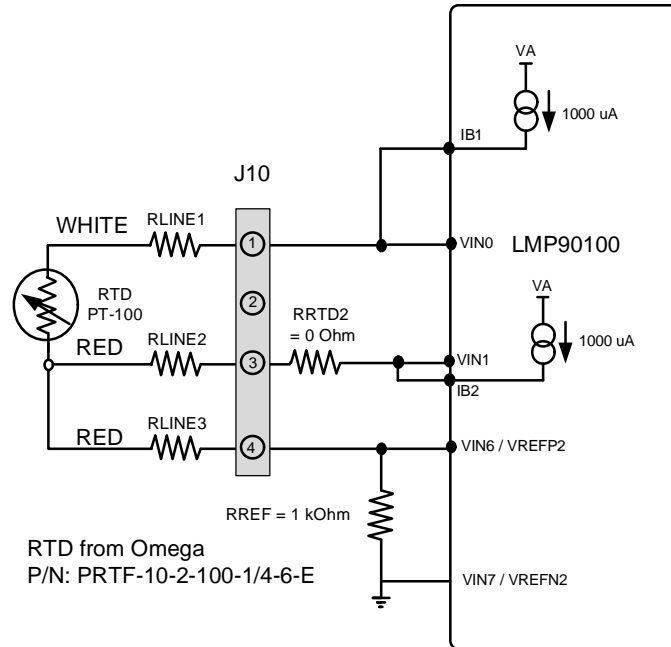

Figure 11 - 3-Wire RTD Configuration
A 3-wire RTD has a typical configuration shown in Figure 11. This section will explain how to configure the LMP90100EB and software tool to evaluate a 3-wire RTD.
1. Connect a 3-wire RTD to J10 (see Figure 11). The white wire should be at J10.P1, and the red wires should be at J10.P3 and J10.P4.